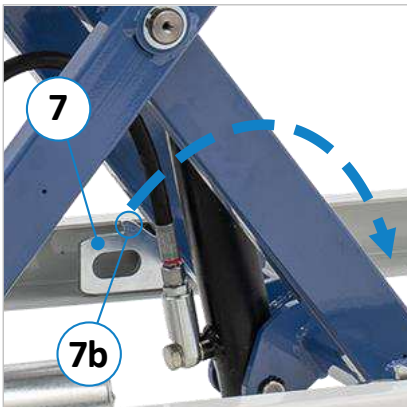

Figure 5: Safety catches for securing
To secure the lift table, move it upwards so that both safety catches (7) can be folded over. Now fold the safety catches (7) manually by 180° so that they engage in the catch point (7b) shown in ⇒ Figure 5.
Move the lift table upwards until the two safety catches (7) can be folded over. Then fold the safety catches by 180° (as shown in ⇒ Figure 5). Subsequently lower the lift table until the safety catches engage in the corresponding catch points and the hydraulic cylinder is relieved resp. accessible for removal.